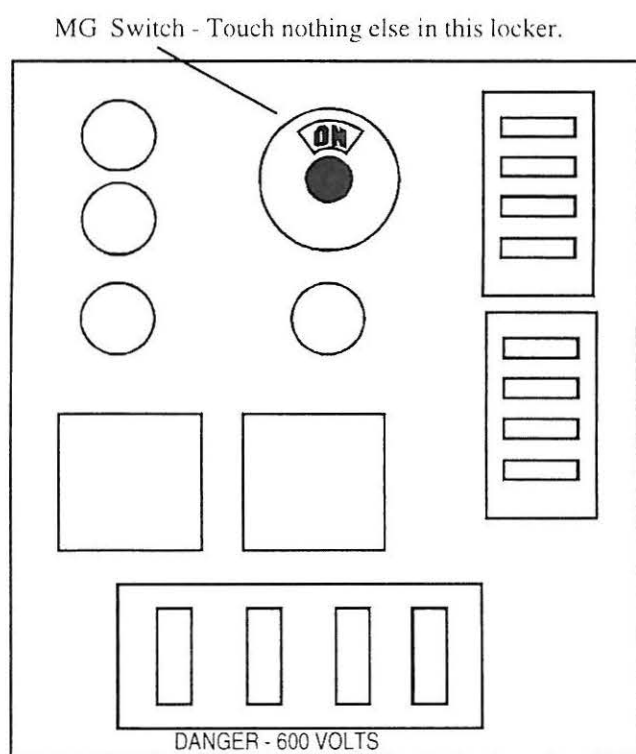

Figure 17. A-End Equipment Locker showing MG Switch Location
5. Open the equipment locker door just below the "A" end windshields (figure 17). It contains numerous fuses and switches. Locate the large snap switch marked **MG SET** on the location guide pasted inside the locker door, and turn **on** this switch. The MG set should come on immediately when this is